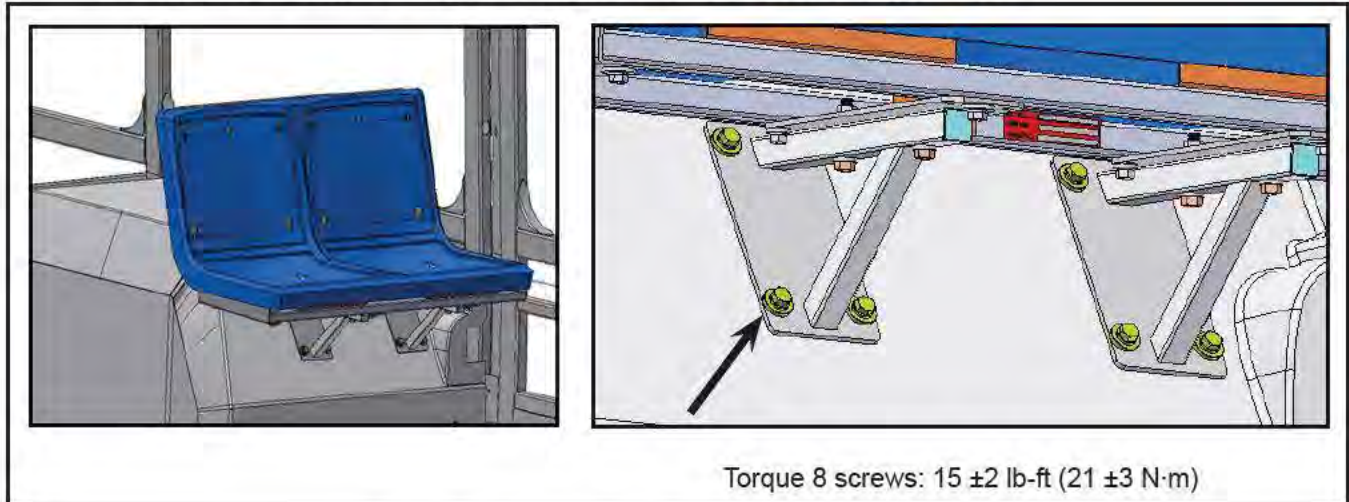

Figure 14 - Torque to Apply for Transversal Seat (Typical)
- Torque the screws to the torque value shown in Figure 14.